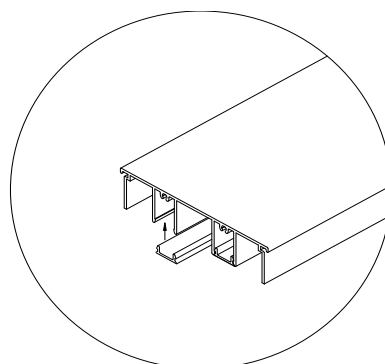

Figure 7
- 11) Next install the main frame head screw covers. Snap the screw cover in on one side then slide the cover over until it is past the jamb fins, do the same with the other side. The material may need to be arched to get it in tight. (See Figure 7)